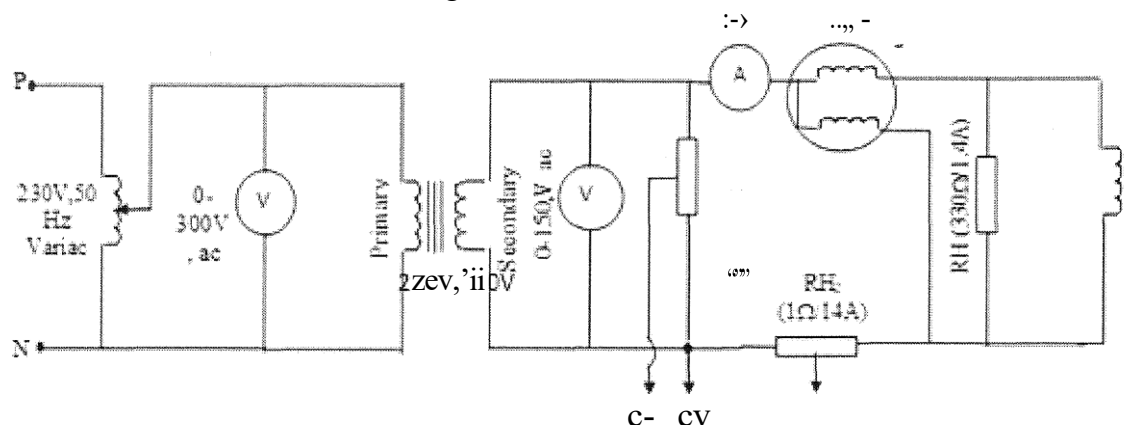

Figure 4: Circuit Diagram
1. Connect the circuit as shown in Figure 4
9. Connect the input, as in Figure 4, to the supply.